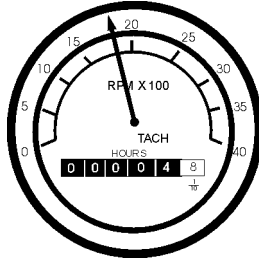

Figure 45. Engine Tachometer
15. The tachometer (Figure 45) will indicate the speed of the engine when the generator is operating. Under normal operating conditions this speed should be approximately 1800 RPM's.